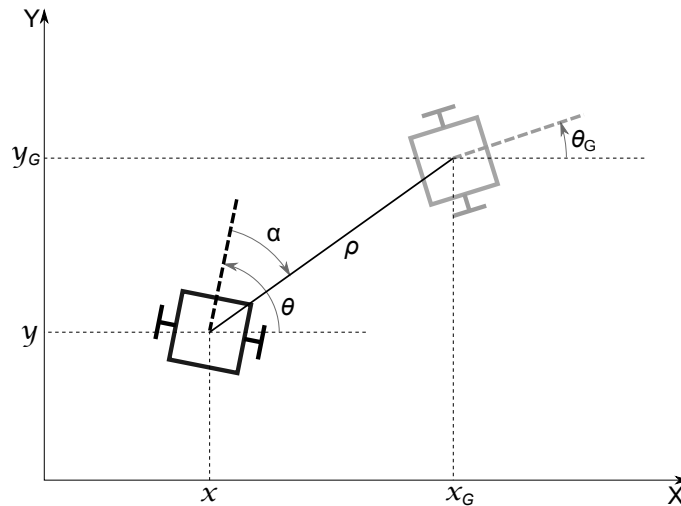

FIGURE 1 – Control of a unicycle towards a position
In this first part, you have to write a proportional controller in order to guide a unicycle robot towards a given pose (Figure 1). The unicycle has limited forward ($\|v\| < 1m.s^{-1}$) and rotation speed ($\|\omega\| < \pi rad.s^{-1}$). Acceleration is also limited ($\|\frac{dv}{dt}\| < 10m.s^{-2}$ and $\|\frac{d\omega}{dt}\| < 10rad.s^{-2}$).
- Far from the goal ($\rho > 0.05$), the controller will use ρ et α shown in figure 1 in order to compute translation and rotation speed :